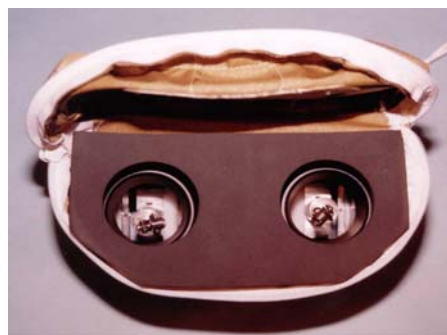

Figure 17.13- Rear foam layer inserted into lower abdominal bag
14. Align the four ½" diameter bores in the Rear Abdominal Foam Layer (T1LAM013) with the posts protruding from the inside face of the internal mounting plate. Pass the DGSP assembly cables through the large bored holes in the rear foam layer. Press the rear layer of foam over the cones and against the internal mounting plate, as shown in **Figure 17.13**. The foam should be on the inside of the abdominal bag.